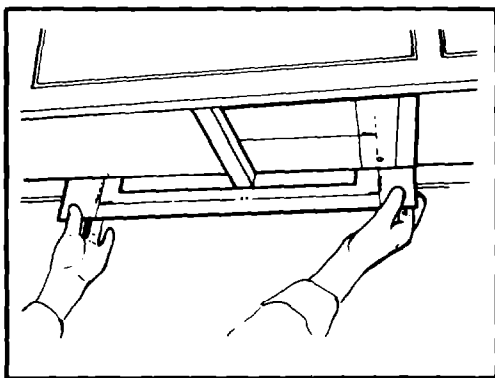

Fig. 13
- Attach Template 1 with scotch tape to rear of cabinet and align arrows with hole center line on Template 2. (Fig. 13)